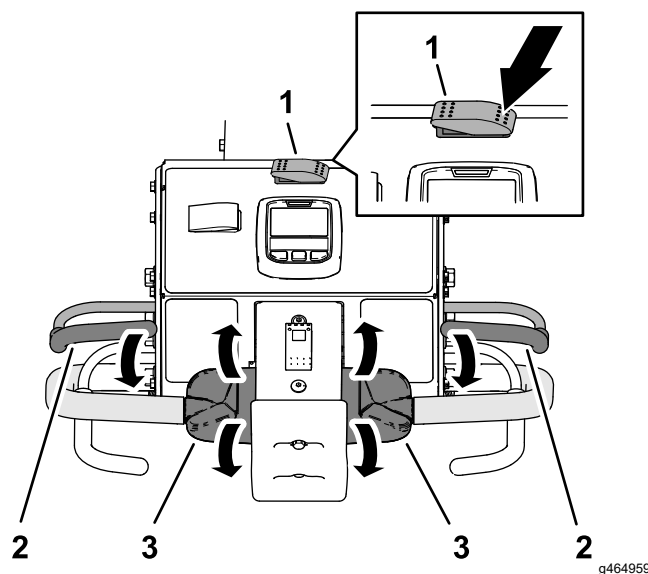

Figure 83
3. Press the left side of the transport/aeration switch to the TRANSPORT position (Figure 83).
5. Grasp the left or right handlebar and the operator-presence bail (Figure 83), and squeeze the bail to the handle.